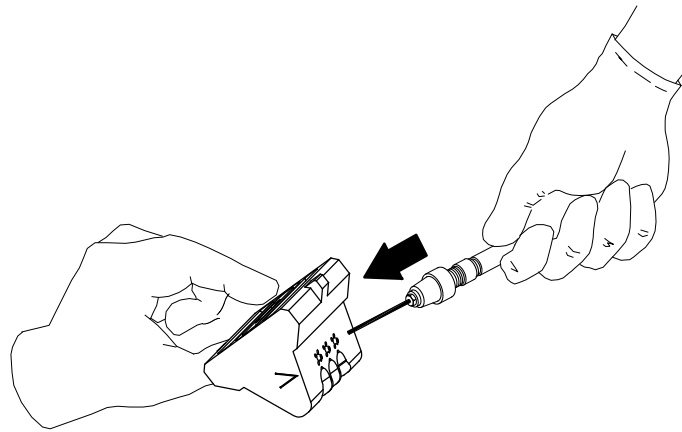

Figure 9 Correct direction to insert a pin-type probe into a nozzle
4. If cleaning of the nozzle orifices is necessary, use a pin-type probe that is one size smaller than the orifice size: insert the probe in the direction opposite the adhesive flow, wipe the probe, and then remove the probe without twisting it, as shown in Figure 9.